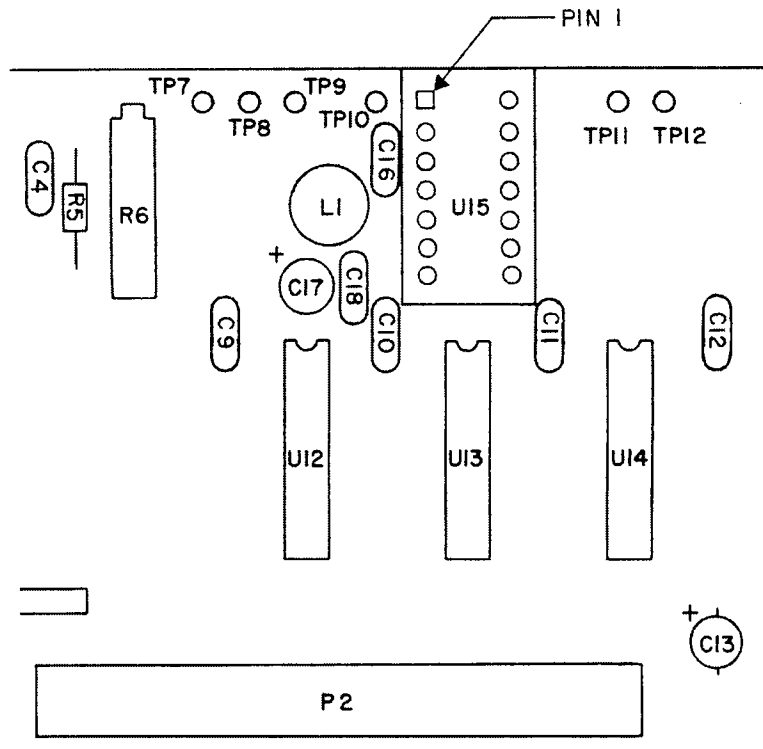

Figure F-2. Partial Component Side View of the Synthesizer Interface Showing U15
11. On the component side of the board, notice that in the upper right-hand corner is located an area with designator U15. (Refer to **Figure F-2**, which is a partial illustration of the board.)
13. The number 1 pin locator (on the parts mounted side of board), is shown with a square at the U15 location, as shown in **Figure F-2**.